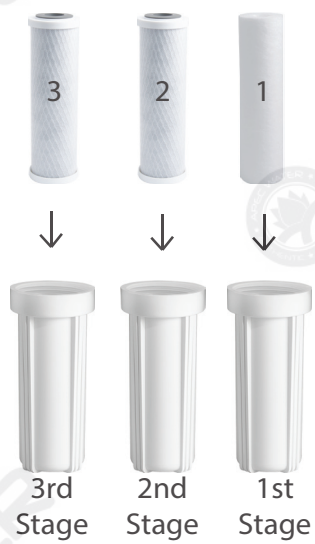

Fig. 1
1. **See Fig. 1** Stand the 3 housings upright. Make sure each housing has a rubber O-ring in its groove.